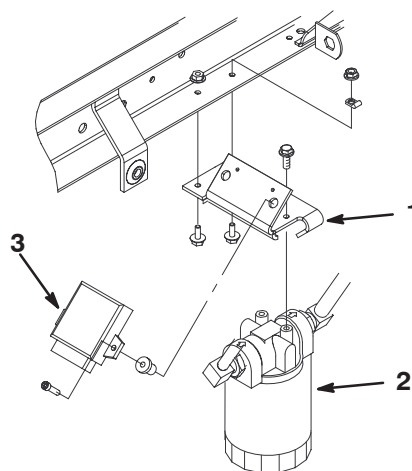
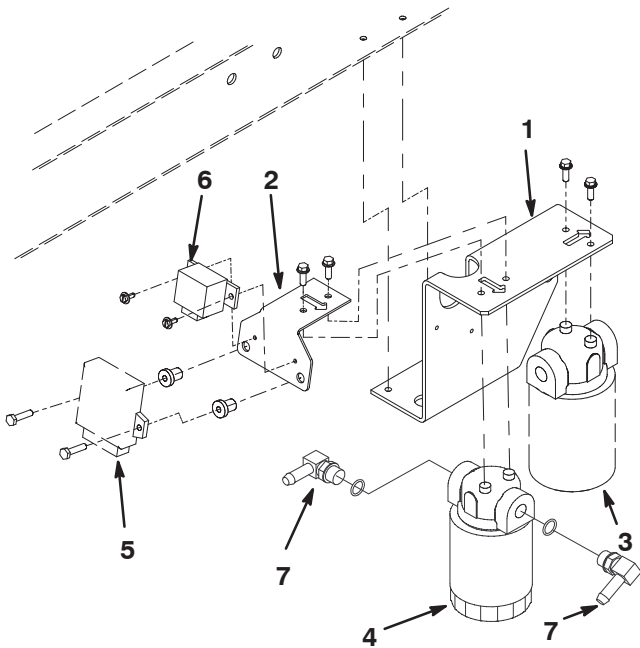

Figure 15
Figure 18
37. Remove the fasteners securing the hydraulic filter mounting bracket to the frame (Fig. 15). Retain the fasteners.
38. Remove the old filter assembly from the bracket and remount it to the rear of the new bracket (Fig. 15 & 18).
39. Disconnect and remove either the electronic controller (gas vehicles) or the glow plug relay (diesel vehicles) from the old bracket (Fig. 15). Mount it to the front of the new mounting bracket and connect it to the harness (Fig. 18).
49. Mount the 90° fittings to the new filter assembly. Position the fittings as shown in figure 18. Make sure the O-rings are lubricated and in place.
50. Mount the new filter assembly and the new mounting bracket to the front of the filter bracket with (2) flange head screws (Fig. 18). Make sure to align the arrows on the bracket and the filter head for correct installation.
59. Mount the new filter bracket to the frame with the fasteners previously mounting the old bracket (Fig. 18).
1. Clean the area around the new filter mounting area (Fig. 18). Place a drain pan under the filter and remove the filter.